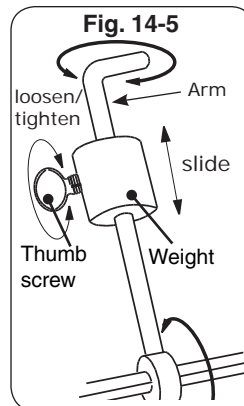

Fig. 14-5
9. Slide the counterbalance weight up or down the arm until the rod rotates most evenly then tighten thumb screw (Fig. 14-5).